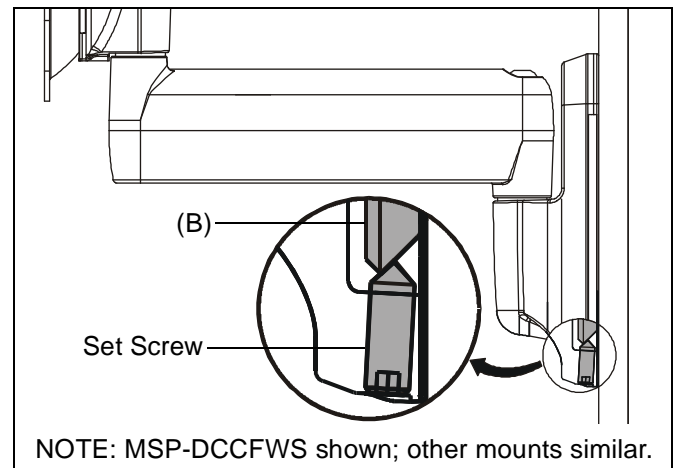

Figure 3
5. Using 5/32" key (K), tighten set screw (See Figure 3). Ensure set screw engages *back* side of wall plate (B) to properly secure mount.